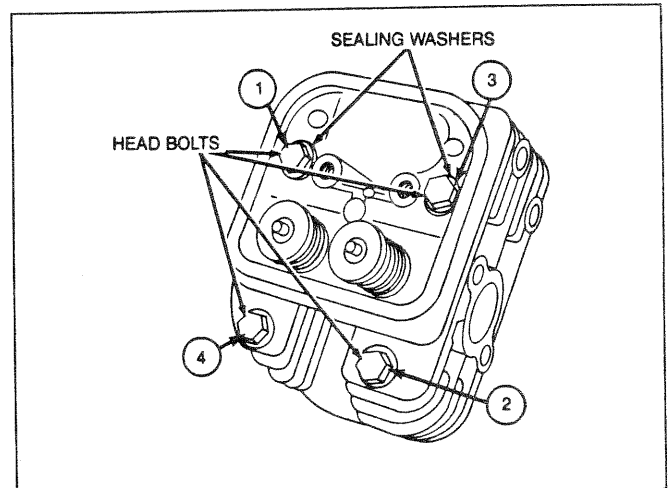

Figure 96. Installing Cylinder Head Bolts
- Lubricate bolt threads and install four cylinder head bolts and two seals (Figure 96).
- Use a suitable torque wrench to tighten bolts in the sequence shown (Figure 96). Tighten to 19 N-m (165 inch-pounds).